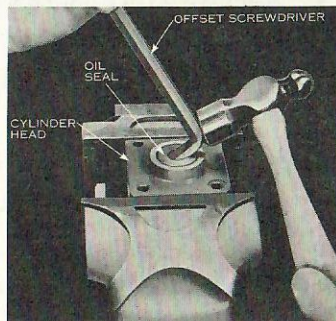

FIG. 24-1
7. To replace oil seal pry out old seal from cylinder head and press in new seal, Fig. 24-1.